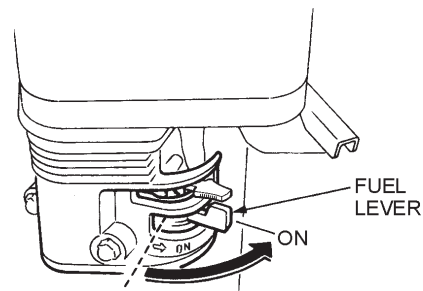

Figure 14. Engine Fuel Valve Lever (ON Position)
1. Place the engine **fuel valve lever** (Figure 14) to the "ON" position.